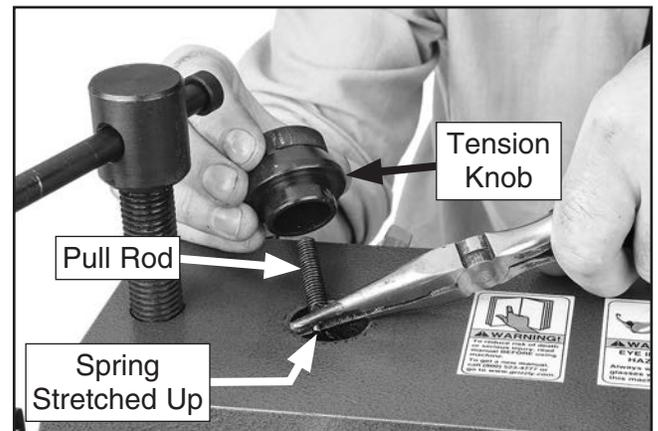

Figure 47. Using needle-nose pliers to stretch return spring up while installing tension knob.
- Use needle-nose pliers to stretch spring upwards, then thread spring tension knob onto pull rod (see **Figure 47**) 2–3 turns.